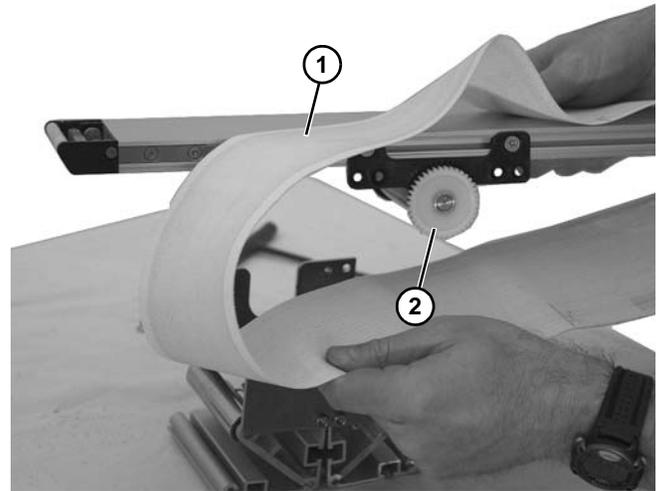

Figure 36
1. Remove belt (Figure 36, item 1). See “Conveyor Belt Replacement” on page 11.
2. Remove drive gear (Figure 36, item 2) from shaft.